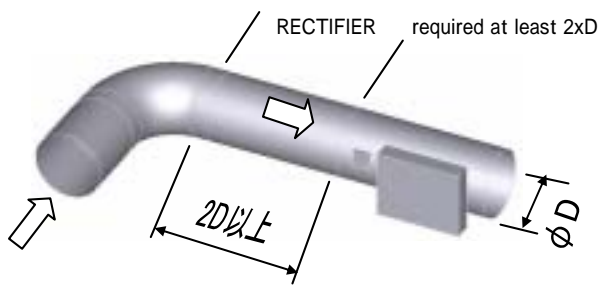
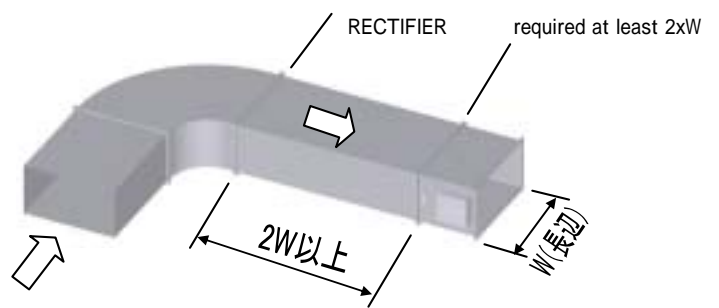

fig.2
fig.3
- Prepare a straight rectifier duct like the way shown(fig.2 and fig.3).